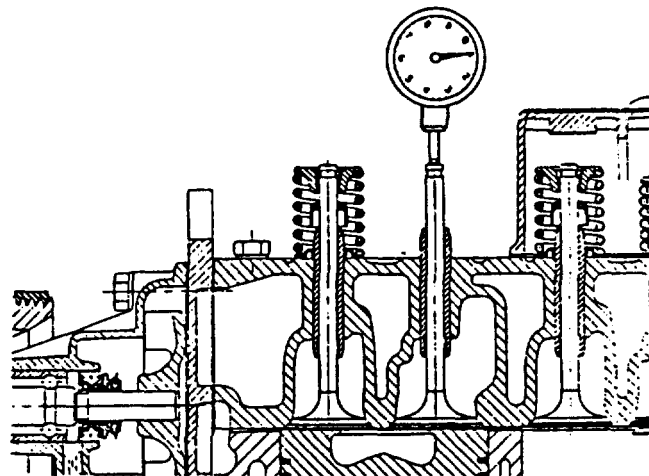

FIGURE 3-10. Checking Piston Drop
j. Valve can now be depressed until head of valve rests on top of piston, refer to FIGURE 3-10.
k. Mount a dial indicator, refer to FIGURE 3-10, to cylinder head to check intake valve drop. Carefully turn engine a small amount either side of TDC and dial indicator can be zeroed at TDC.